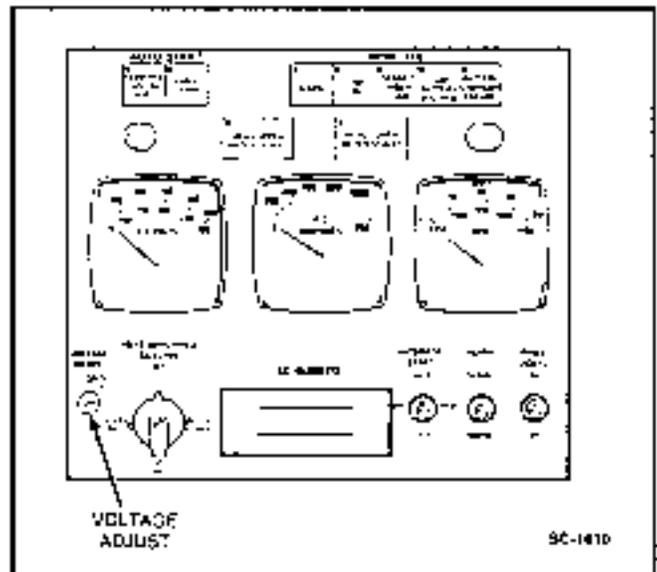

FIGURE 8-6. GENERATOR CONTROL PANEL
The AC generator is fitted with a permanent-magnet exciter which ensures voltage build-up from a low speed such that nominal voltage is achieved within a very short period after generator set start-up. Generator voltage is controlled by the voltage control rheostat located on the Generator Control Panel and the solid-state Voltage Regulator located on the engine side of the generator conduit box (see Figures 8-6 and 8-7).
1. Loosen the voltage control rheostat locking nut. With a screwdriver, turn rheostat fully counter-clockwise, then fully clockwise, then to mid position (see Figure 8-6).